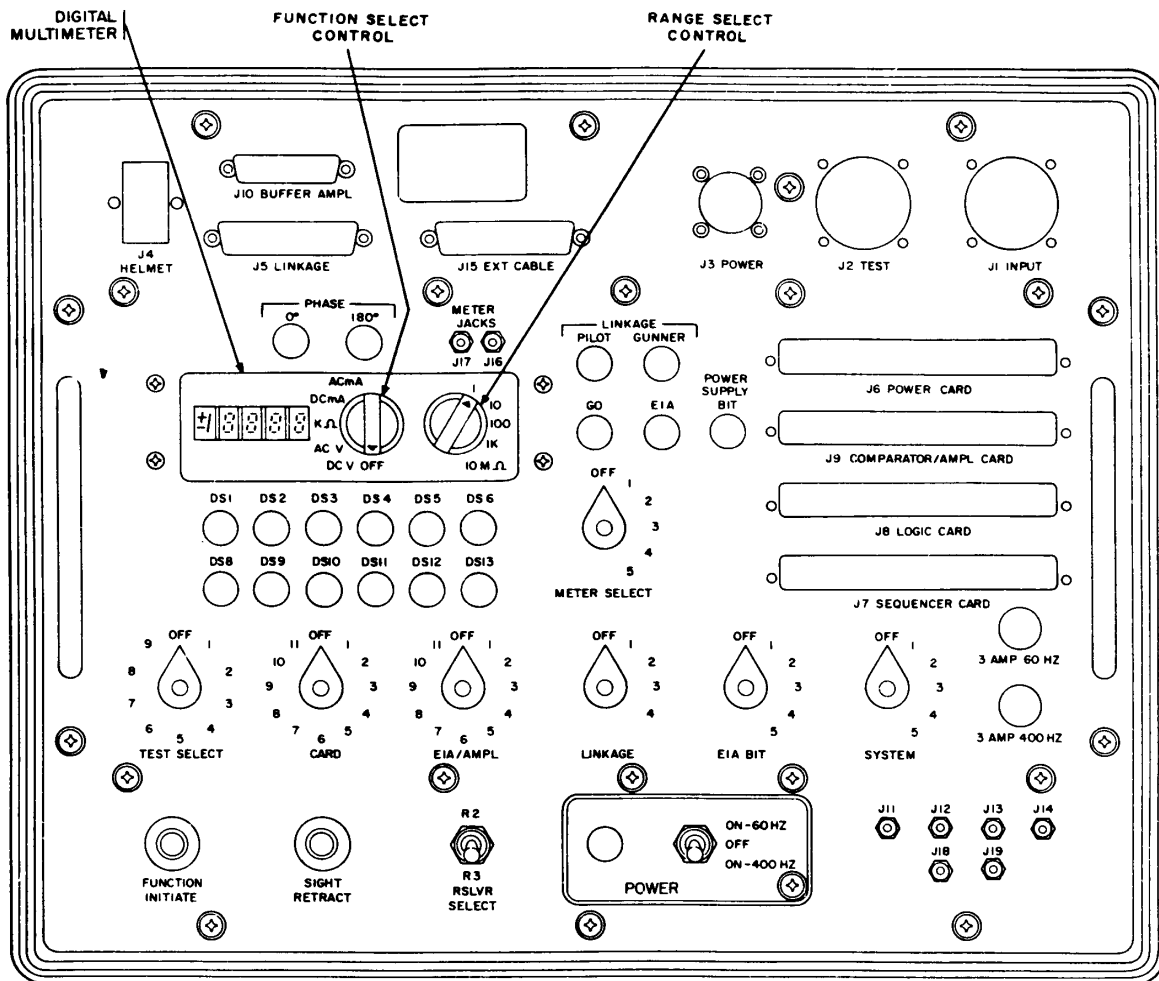

Figure 1. Fire control subsystem test set - control panel
1. Test Instrument Identification. This bulletin provides information for the periodic calibration of Fire Control Subsystem Test Set AN/GSM-249. The component of this test set requiring calibration is the digital multimeter (fig. 1).